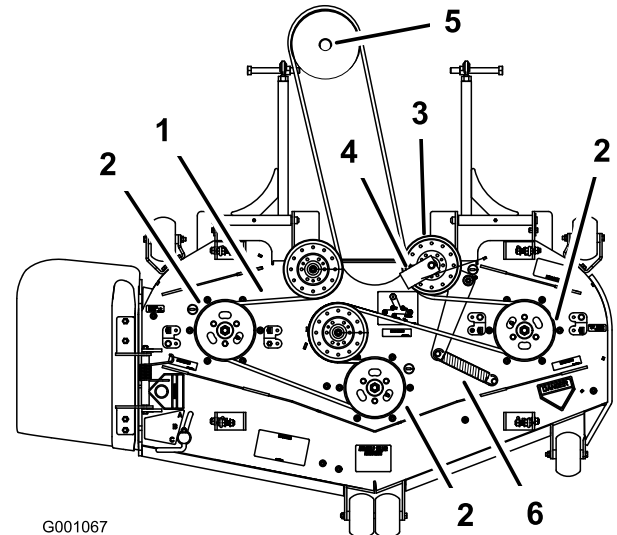

Figure 68
6. Install the new belt around the mower pulleys and the gearbox pulley under the engine (Figure 68).
7. Install the belt guide on the spring loaded idler at a 45 degree angle as shown in Figure 68. Torque the bolt to 27 to 33 ft-lb (37 to 45 N-m).
8. Install the idler spring to the two posts (Figure 68).